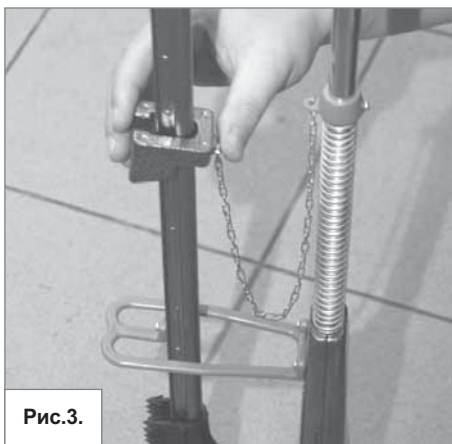

Рис.3.
2. Nakładamy na prowadnicę (3) ciężarek (6). Rys. 3.
2. Надеть на направляющую (3) грузик - прижимную шайбу (6). Рис. 3.
2. Put weight (6) on guide (3). Fig.3.
3. **ADJUSTMENT** – sing adjustment screw (8) adjust proper space in clip socket (10). The space is adjusted by screwing in or out the screw using Allen key 3 mm. When it is too deep it causes clip damage by screw blade and Tacker block. Proper adjustment in socket prevents automatic clip fall out and allows Tacker to operate properly.